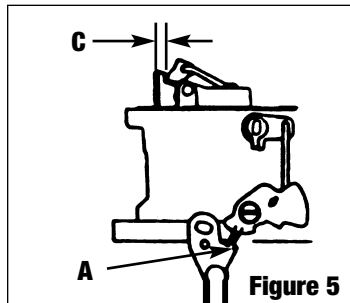

Figure 5
- **FAST IDLE LINKAGE (FIG. 5)**